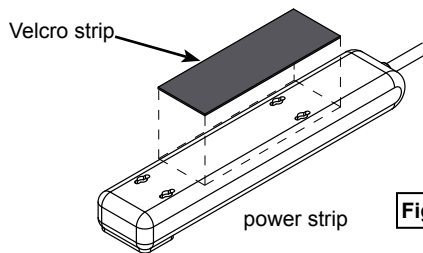

Figure 2A
2. Attach the power strip inside the unit to the base panel or one of the side panels using the self adhesive hook and loop strips. **Figure 2A**.